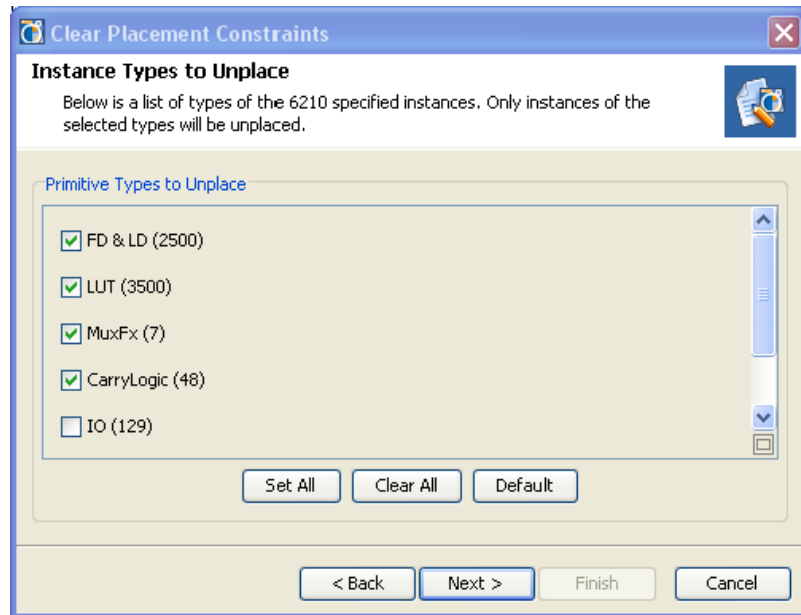

Figure 10-27: Unplace Instance Types
**Note:** If you have not previously selected instances, step 2 is skipped, and you are presented with a list of instance types in the design to unplace as described in step 4, and shown in Figure 10-27, page 336.
You are presented with a list of instance types to unplace as shown in Figure 10-27, page 336. This lets you selected from the various types of instances within the group of instances specified in Step 2.